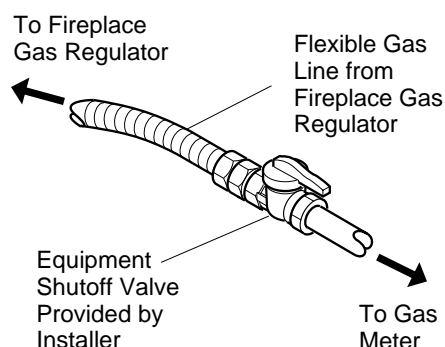

Figure 18 - Attaching Gas Lines Together
NOTICE: Most building codes do not permit concealed gas connections. A flexible gas line is provided to allow accessibility from the fireplace (see Figure 18). The flexible gas supply line connection to the equipment shutoff valve should be accessible.
4. Attach the flexible gas line to gas supply (see Figure 18). Check tightness of flexible gas line attached to gas regulator of fireplace (see Figure 18).